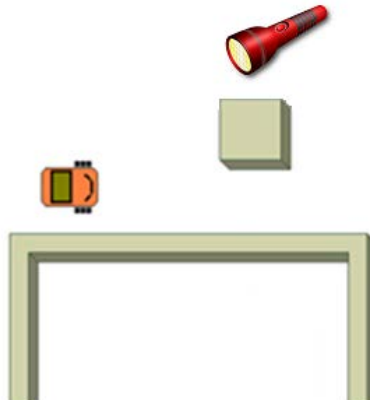

Figure 5: Robot homing
- Based upon the above model, write code to home the CEENBoT robot to the light source (see Figure 5). The robot should come within one foot of the beacon without touching it. Turn on an LED to indicate homing. Turn on a different LED for path planning back to the wall.